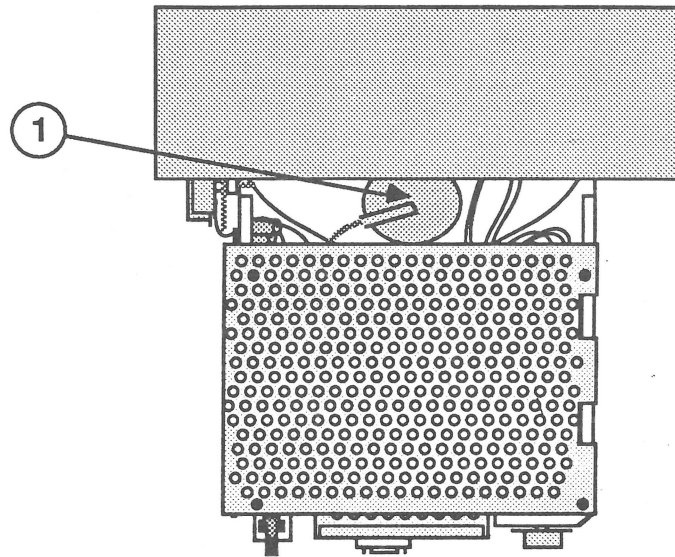

FIGURE 34
8. Replace the anode cap (Figure 34, #1).